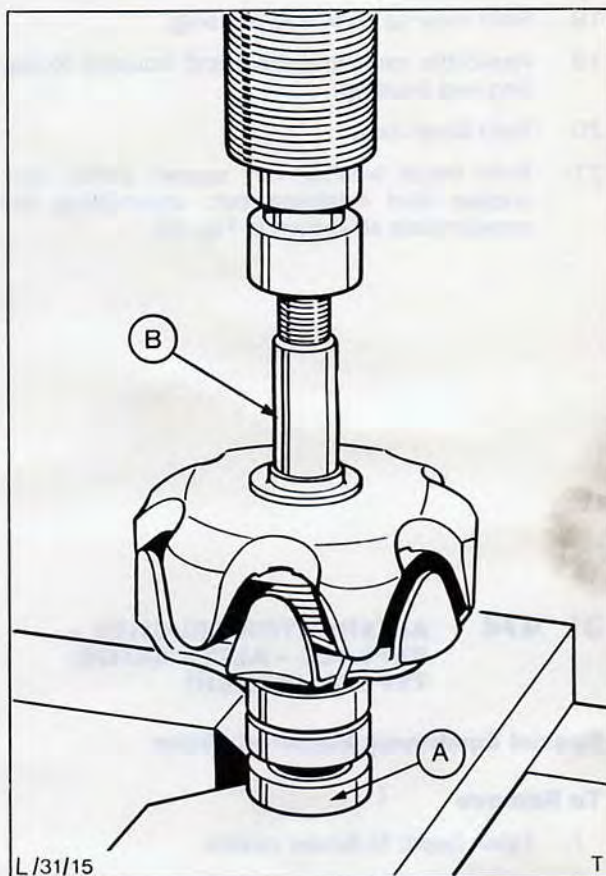

Fig. 26. Fitting the slip ring end bearing
16. Press slip ring end bearing, onto rotor shaft Fig. 26.